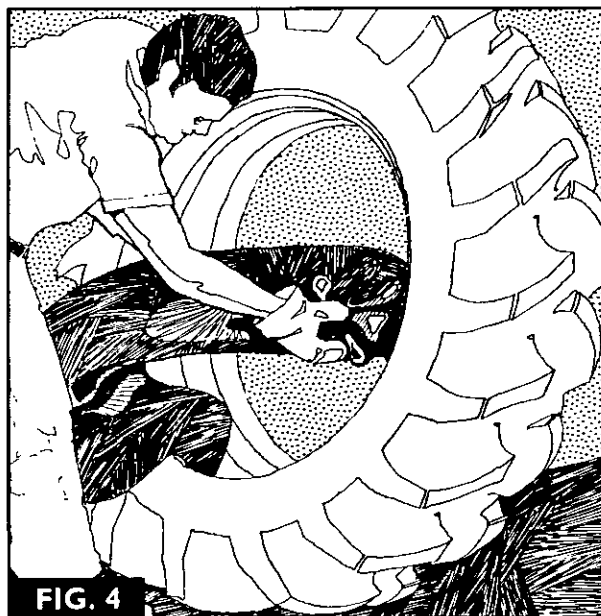

FIG. 4
7. Fig. 4. With the wheel in a vertical position, pull the tyre forwards and remove the tube.